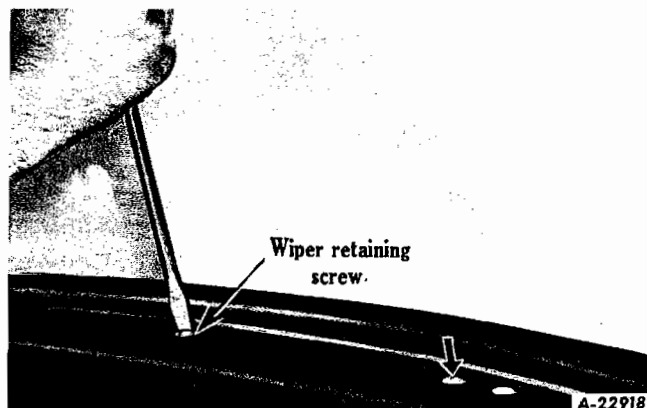

Fig. 83
4. Remove two windshield wiper retaining screws, nuts and washers (Fig. 83).